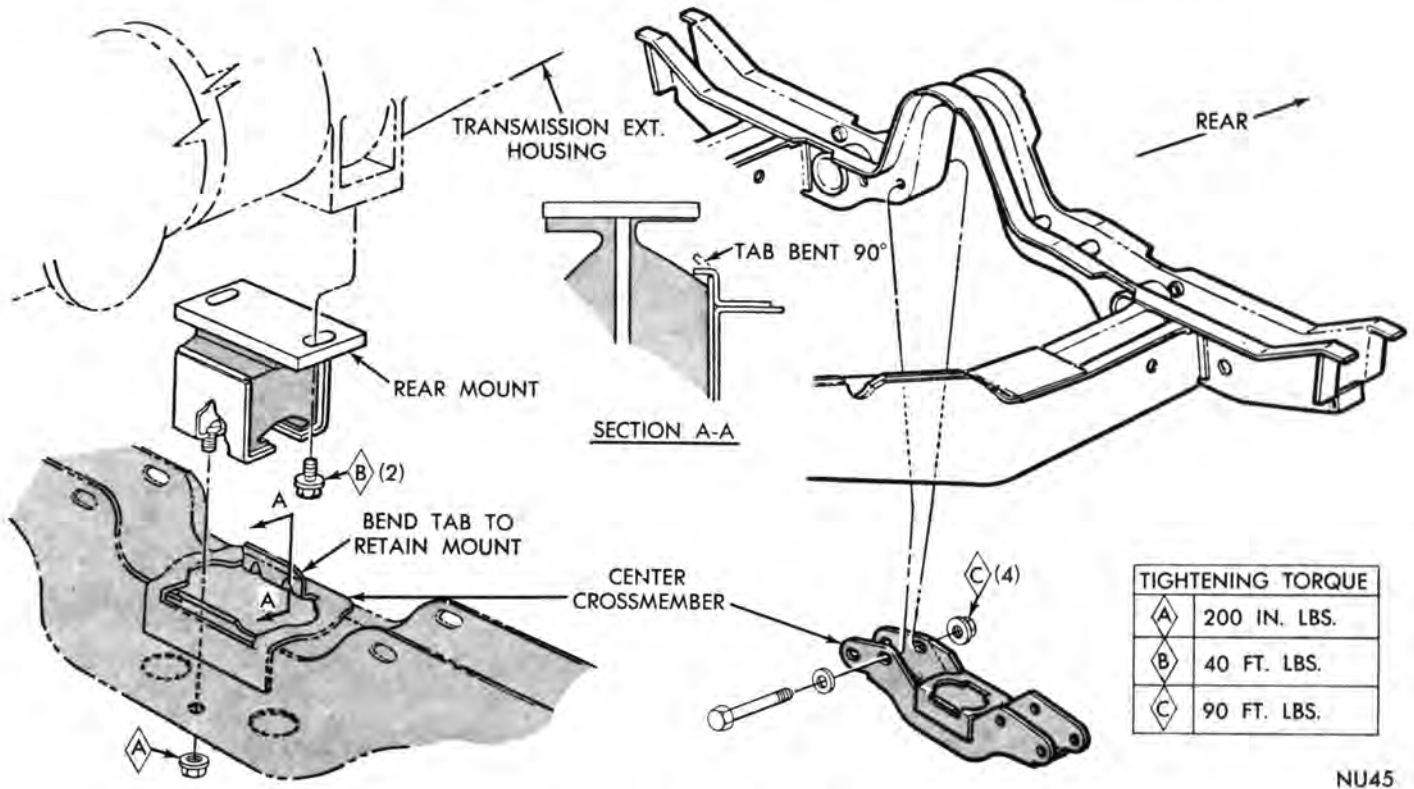

Fig. 106—Center Crossmember and Rear Engine Mount (Valiant, Barracuda)
(7) After transmission is in position, install bell housing bolts and tighten to 28 foot-pounds.
(8) Install and tighten the two lower drive plate to converter bolts to 270 inch-pounds.
(9) Install starting motor and connect battery ground cable.
(10) Rotate engine with remote control switch and install the other two drive plate to converter bolts. Tighten bolts to 270 inch-pounds.
(11) Install crossmember (Fig. 106, 107 or 108) and tighten attaching bolts to 90 foot-pounds. Lower transmission so extension housing is aligned and rests on rear mount. Install bolts and tighten to 40 foot-pounds.